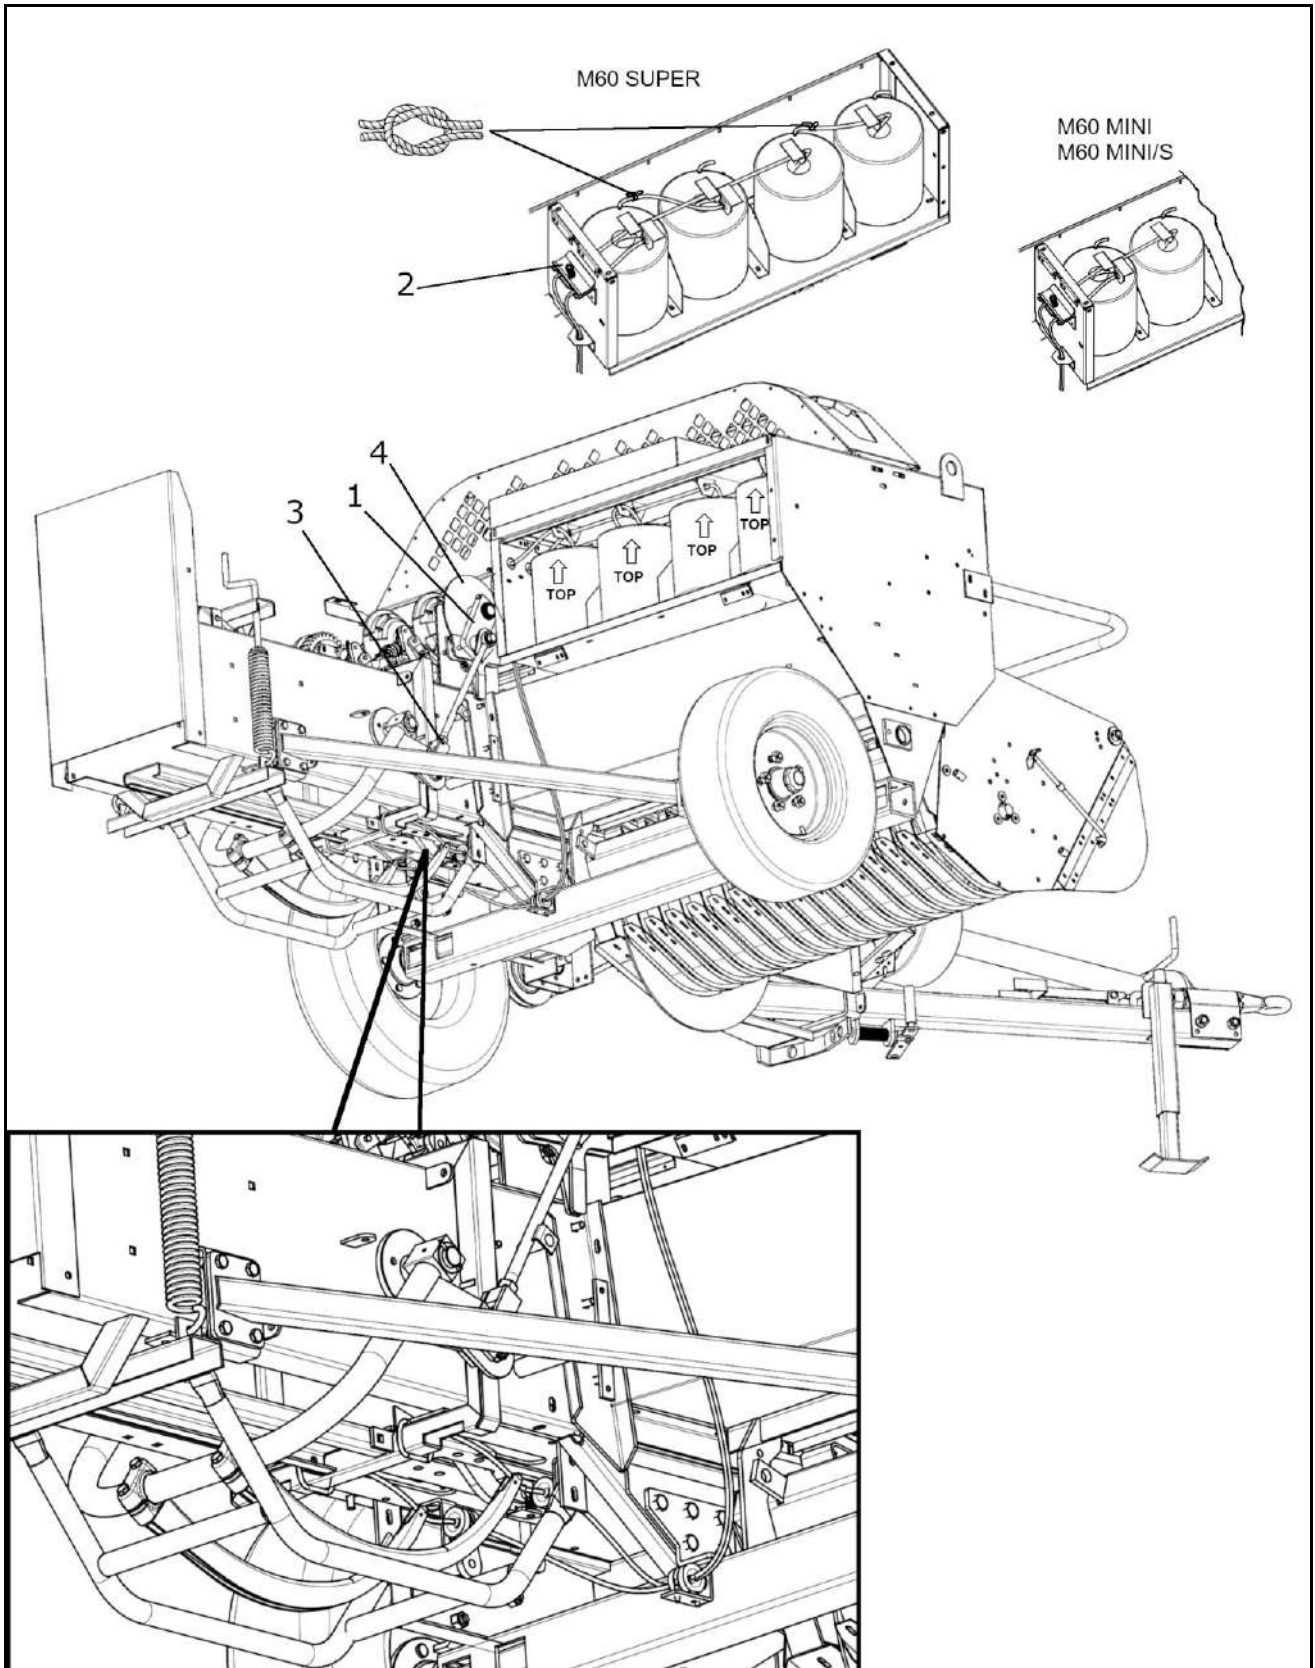

Fig. 5.8
- 1 Insert the spools of the right type of twine in the twine box (see Table 6.2). Make sure that the spools are placed correctly in the container, so that the twine unwinds counterclockwise when you pull the central end (the spool has the TOP position indicated; follow this indication). This will prevent the twine from getting tangled while unwinding. Arrange the spools and join the ends carefully following what is shown in Fig. 5.8
- 2 Thread the twine as shown in Fig. 5.8. To adjust the twine tension, see section 7.4.6
- 3 Tie the ends of the twine to the lower crossbar of the bale chamber. (Fig. 5.8).